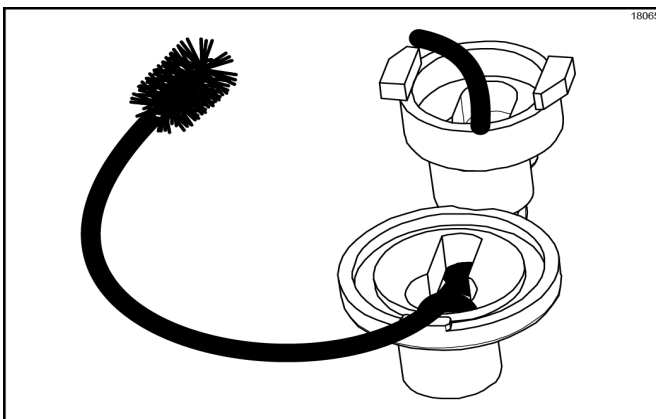

Figure-84
6. Insert the black shielded brush by the non-bristle end into the passageway between the inlet valve and the outlet valve. (See Figure-84.)